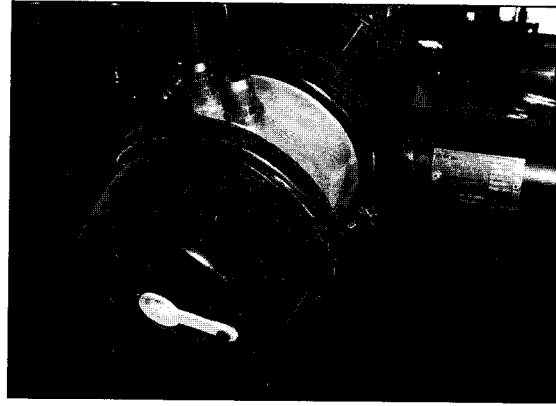
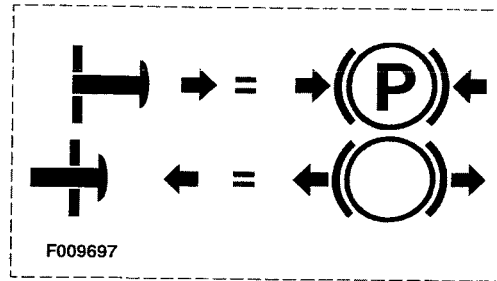

Fig. 20-1
Fig. 20-2
The vehicle is equipped with spring brake actuators (Fig. 20-1), see instruction plate fixed to the chassis (Fig. 20-2).
- to apply vehicle brakes: pull the button (Fig. 20-2).
- to release vehicle brakes: push the button (Fig. 20-2).